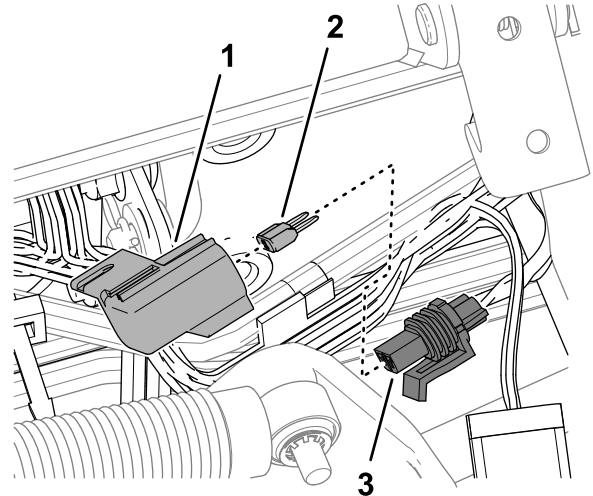

Figure 88
3. Remove the cap from the in-line fuse holder labeled 10 A FUSE TELEMATIC PWR (Figure 88).